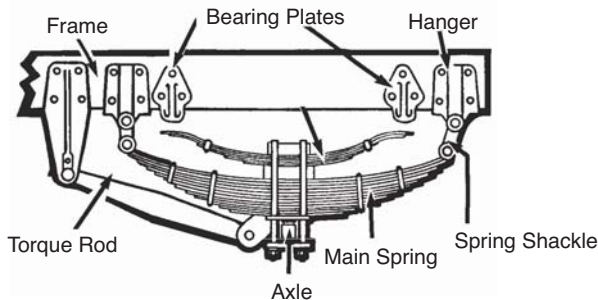

Figure 2.4
- Air suspension systems that are damaged and/or leaking. (See Figure 2.4.) Any loose, cracked, broken or missing frame members.